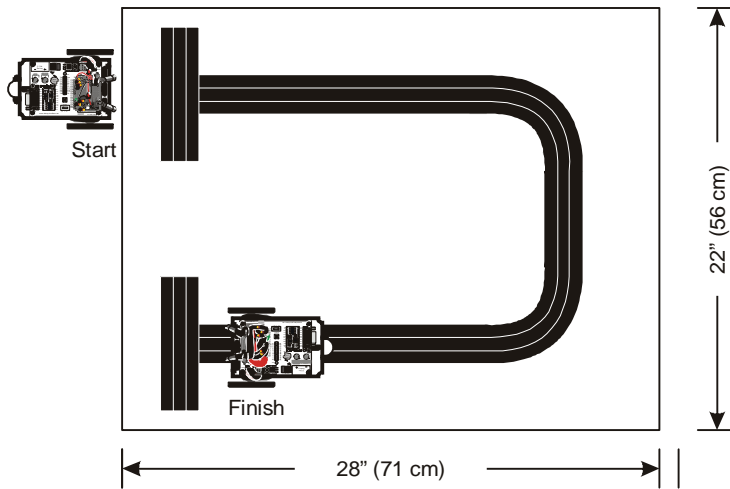

Figure 8-13
- ✓ Place your Boe-Bot at the “Start” location shown in Figure 8-13. The Boe-Bot should wait there until you place your hand in front of its IR object detectors. It will then roll forward. When it clears the starting stripe, take your hand away, and it should start tracking the stripe. When it sees the “Finish” stripe, it should stop and wait there.